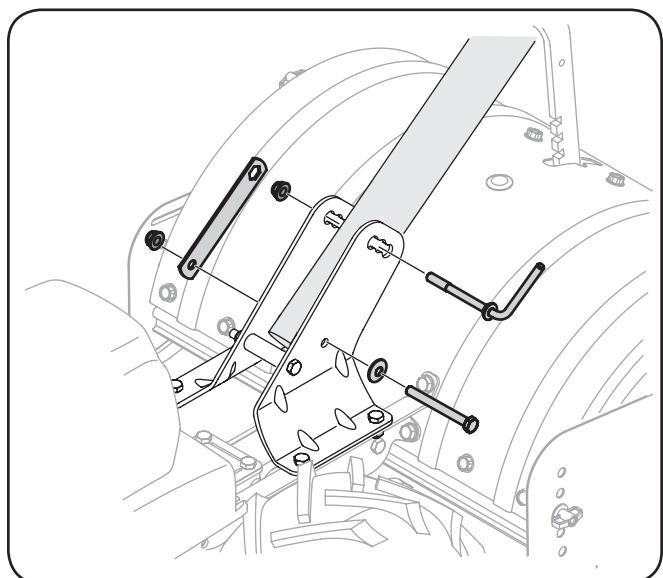

Figure 3-1
3. Install the handle-crank adjustment rod into the top hole of the mounting bracket from the left hand side of the handle assembly, secure with the other flange lock nut previously removed. Fit the hex end of the retainer bracket over the flange lock nut. See Figure 3-1.